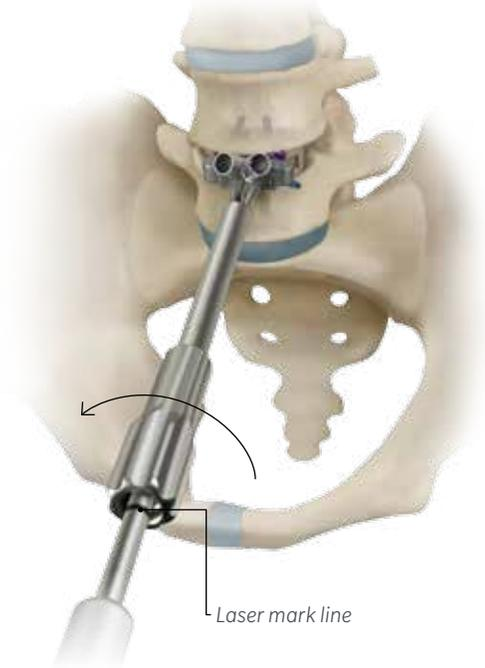

Figure 16:
- Remove drill guide B by turning the sleeve counterclockwise until the outer sleeve reaches the laser mark line (Figure 16).